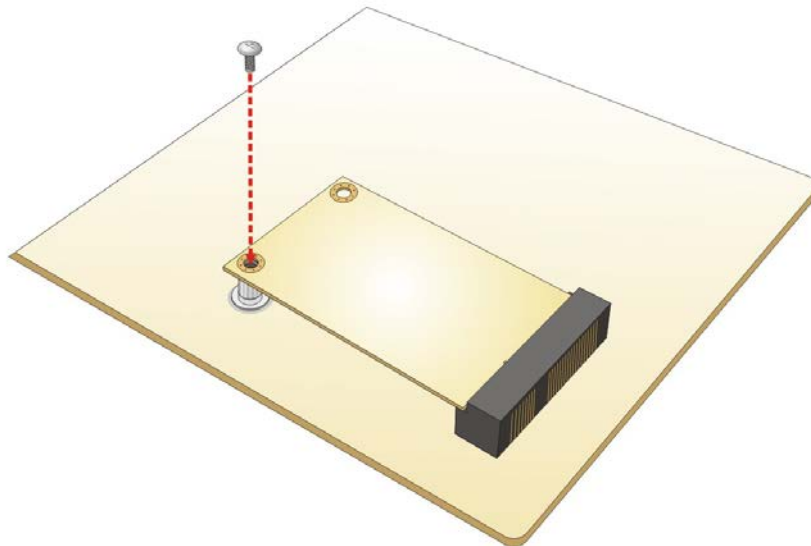

Figure 4-9: Securing the Full-size PCIe Mini Card
Step 4: Secure the full-size PCIe Mini card. Secure the full-size PCIe Mini card with the retention screw previously removed (**Figure 4-9**).